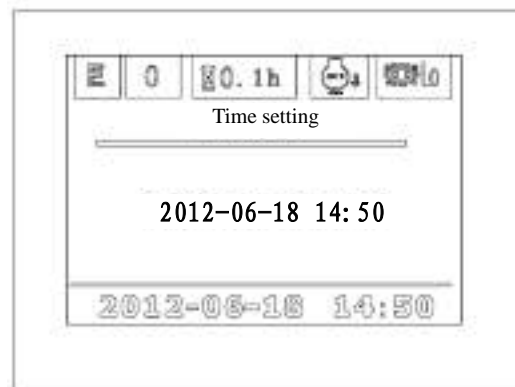

Figure 3-60 Time setting interface
c) After entering the timing setting interface, enter the exact time through the UP and DOWN icons, the interface is shown in Figure 3-60